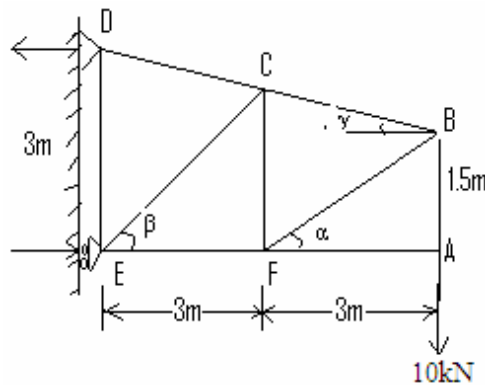

Figure.4
5. Find the forces in the members of the loaded truss as shown in Figure.4. [15]